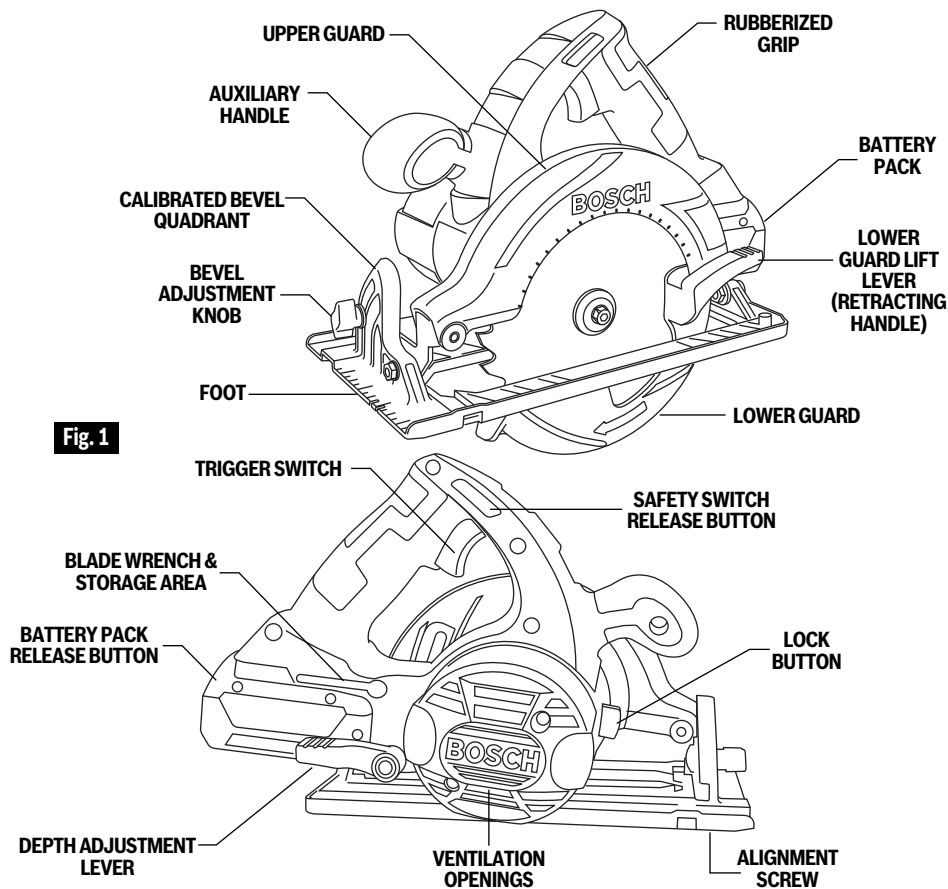

Fig. 1
⚠ WARNING Use only Bosch batteries recommended in the battery/charger list, included with your tool. Using other types of batteries may result in personal injury or property damage. Slide charged battery pack into the housing until the battery pack locks into position (Fig. 1).
Press the battery pack release button again and slide the battery pack completely out of tool housing (Fig. 1).
1. Turn BLADE STUD with wrench provided clockwise and remove BLADE STUD and OUTER WASHER (Fig. 2). If the shaft moves while attempting to loosen the blade stud press the lock button (Fig. 1).